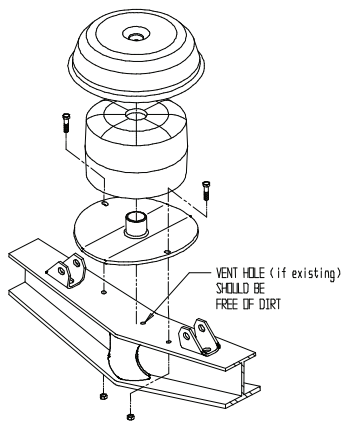

FIGURE 5
STEP 4 – Pull the lower spring plate, spring and restrictor can as one assembly outward off the beam. See Fig. 5.
STEP 5 – Separate the restrictor can, spring and lower spring plate. Discard the restrictor can. Using a wire brush or scraper, remove rust and road accumulations from the spring plate. Clean out the centre vent holes in the beam and lower spring plate. See Fig. 5. Inspect the lower spring plate for visual cracks. If cracked, replace. Contact Chalmers for details.
STEP 6 – Turn the spring upside down so as the old top is now down. Place on lower spring plate, inserting the spring dowel into the centre spring hole. Place the replacement restrictor can over the spring. Make sure the can centre locator is in the centre spring hole. See Fig. 5.